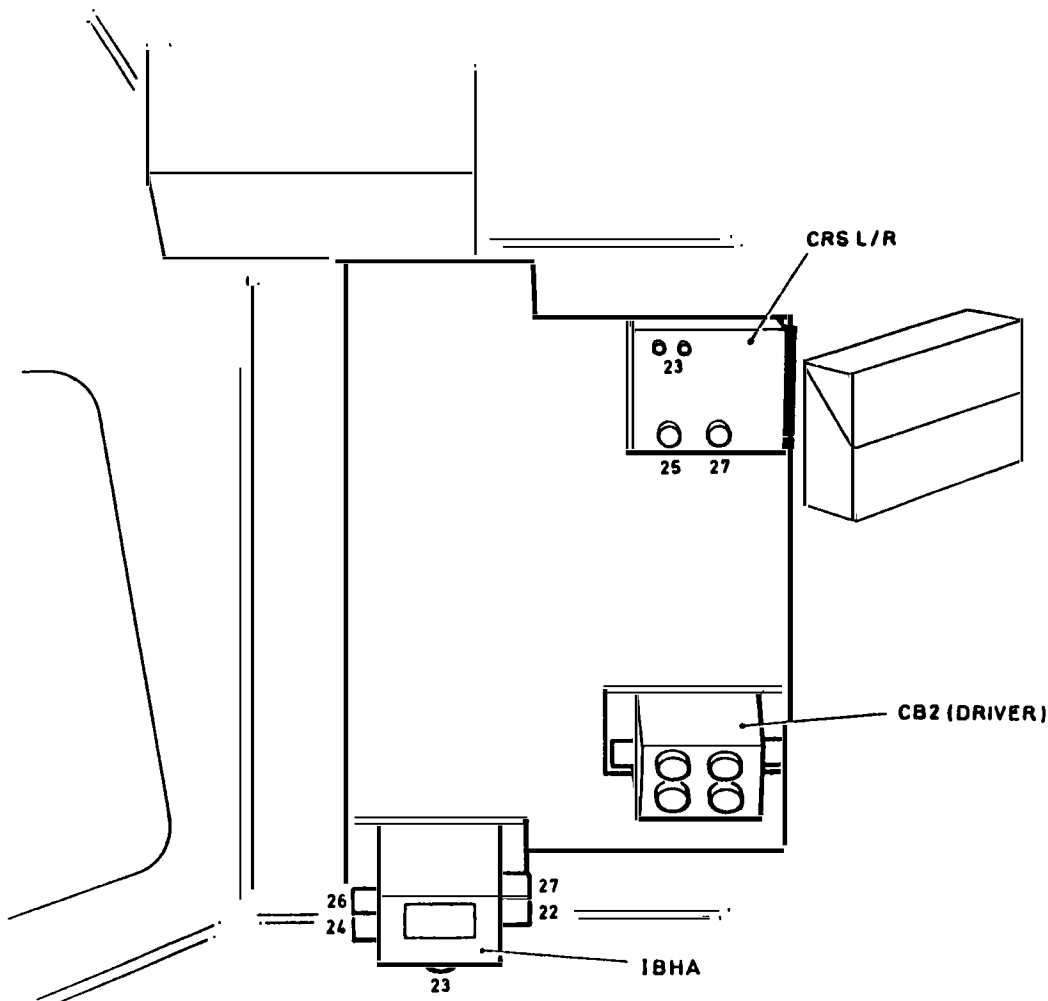

Fig 6 CRS/LR and IBHA locations diagram
Fit the cradle assembly (9) with CRS L/R (16) on the universal mounting plate at the interior forward l.h.s., as per Fig 6 and Table 2, operation 3.
Fit the IBHA (12) to the universal mounting plate as per Fig 6 and Table 2, operation 4.